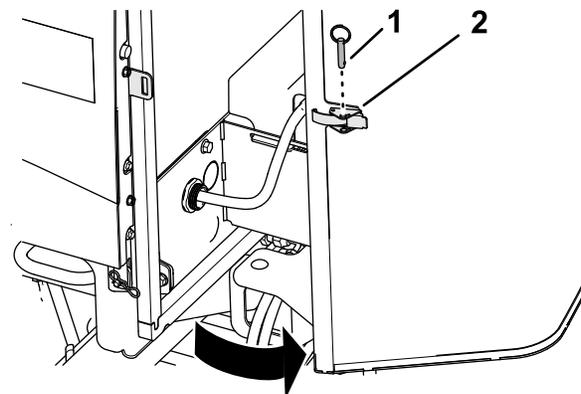

Figure 102
1. Remove the ball pin from the screen latch (Figure 102).